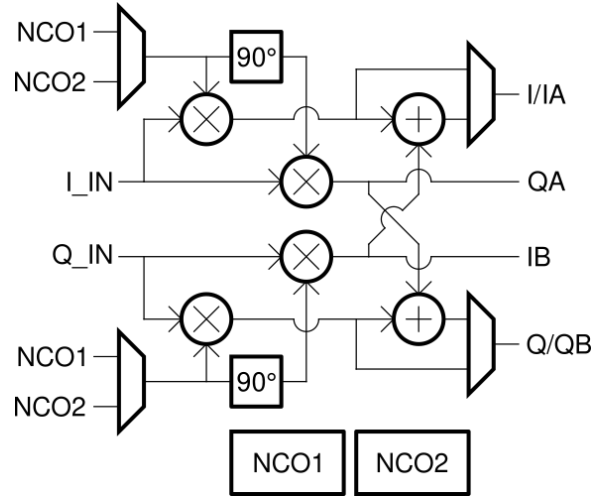

Figure 32: SD1146 DDC.
Figure 32 shows the block diagram the DDC. It consists of two numerically controlled oscillators (NCOs), digital multipliers, adders, and multiplexers. It can be programmed for two modes of operation. Mode 1 provides two independent paths with a real input and a complex (IQ) output. Mode 2 is used when the two ADCs operate as an IQ pair. It accepts IQ input and